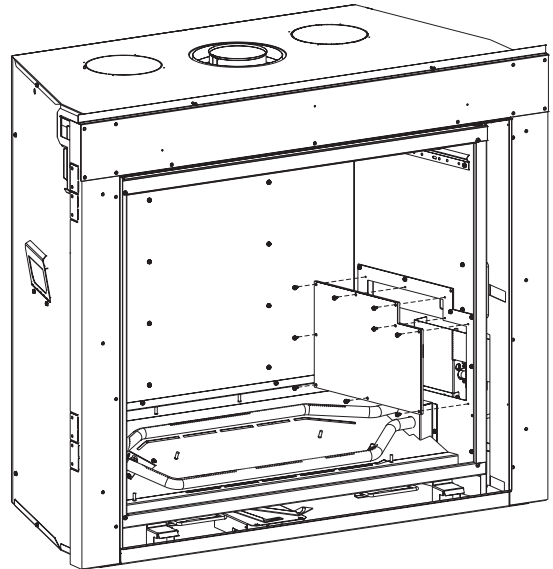

Figure 107
5. Remove Access Panel. **See Figure 107.**